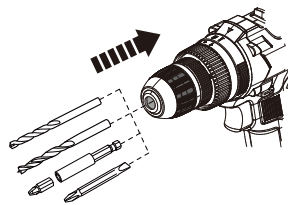

Fig. 2
2. Insert the drill bit all the way to the stop (Fig. 2). For smaller drill bits ensure sufficient work length. If using a 25 mm driver bit, insert it into the socket of a bit holder.